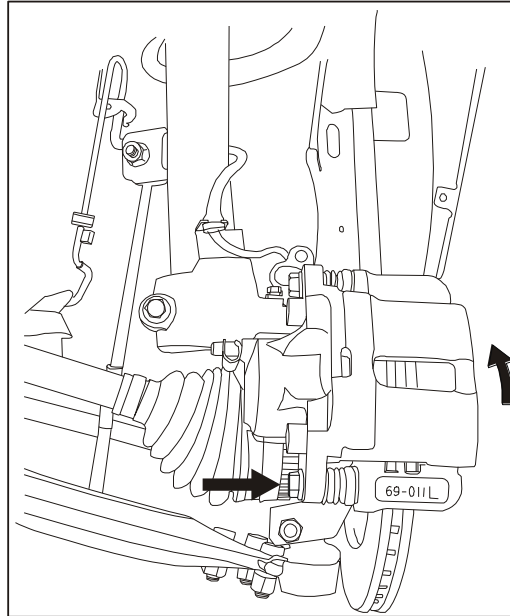

Fig. 5-12 Removal of brake caliper
2) Remove the shaft pin bolt in the front of caliper, and push the caliper backwards, as shown in Fig.5-12.